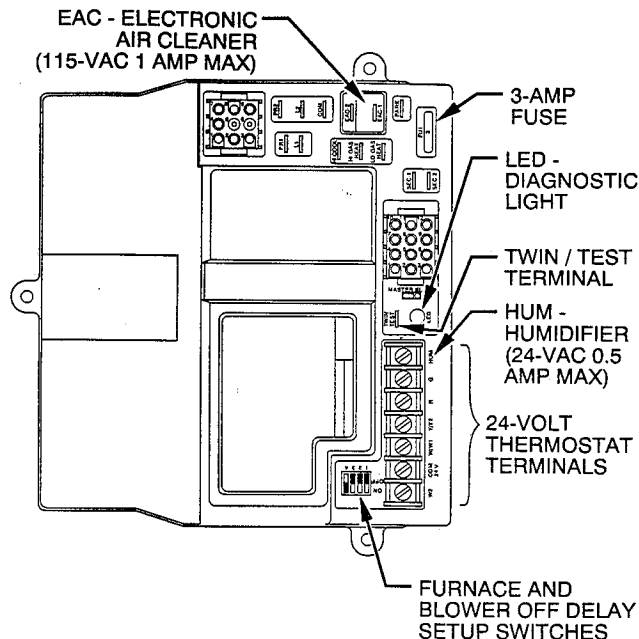

Fig. 10—Control Center
Thermostat wire connections at R and W/W1 are the minimum required for gas heating operation. W2 must be connected for 2-stage heating thermostats. COM, Y/Y2, and G are required for cooling, heat pumps, and some clock thermostats. These must be made at the 24-v terminal block on the control. (See Fig. 10.)
NOTE: With the high heat only switch SW1 (see Fig.10) OFF, the Low-Heat-Only switch SW2 selects either the low-heat only operation mode when on, (see item 2 below) or the adaptive heating mode when OFF in response to a call for heat. When the high heat only switch (SW1) is in the ON position it will always cause high gas heat operation when the R to W circuit is closed, regardless of the setting of the low heat only switch (SW2).
1. Component test—The furnace features a component test system to help diagnose a system problem in the case of a component failure. To initiate the component test procedure, ensure that there are no thermostat inputs to the control, and all time delays have expired. Short the twin/test terminal to ground or COM for 1 to 4 sec. (See Fig. 10 for terminal locations.)